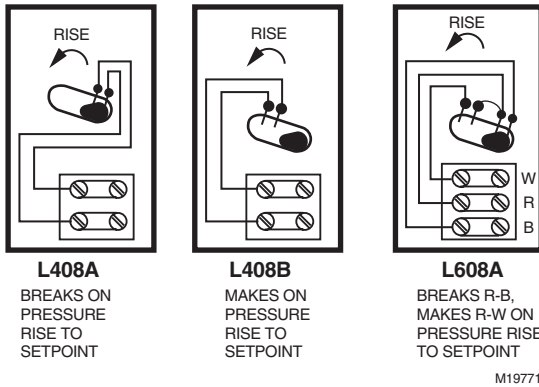

Fig. 3. L408A,B and L608A terminal blocks and internal schematics.
5. All models have a terminal block inside the cover (see Fig. 3) and a 7/8 in. (22 mm) hole in one side for 1/2 in. (13 mm) conduit, cable or wires. Remove the front cover by loosening the screw at the bottom of the main scale.